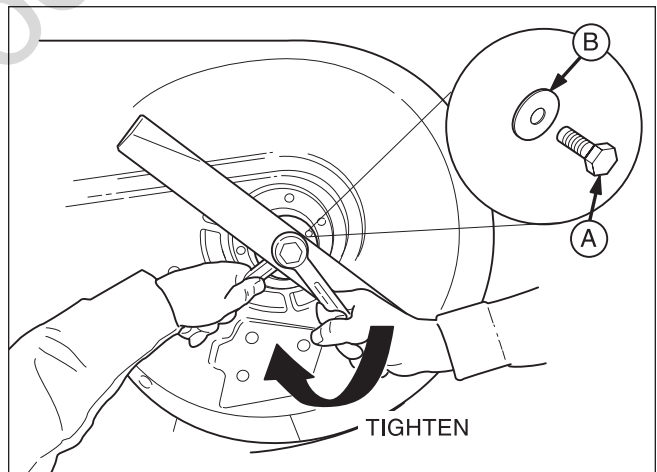

Figure 28. Installing The Blade
5. Reinstall each blade with the tabs pointing up toward deck as shown in Figure 28. Secure with a bolt and flat washer and torque bolts to 70 ft.lbs. (94 N.m.).